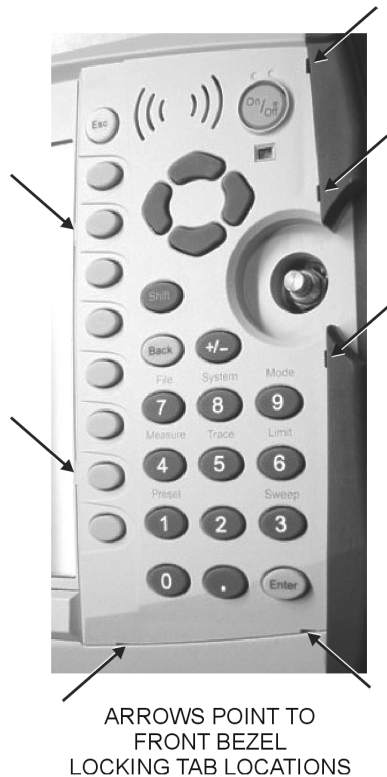

Figure 7-6. Front Bezel Locking Tabs
2. Seven locking tabs hold the main numeric keypad bezel to the case. Using a small flat-blade screwdriver, carefully pry the main numeric keypad bezel locking tabs free of the main body of the case (see Figure 7-6). This will expose the main numeric keypad membrane.